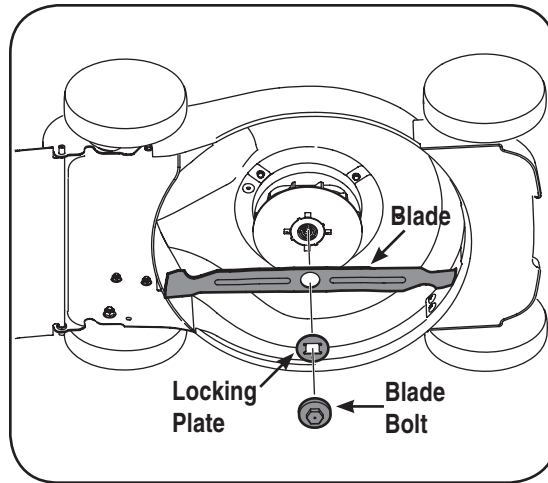

Figure 5-3: Remove blade and hardware.
3. Loosen and remove the blade bolt, locking plate, and blade. See Figure 5-3.
6. Place the cutting blade, locking plate, and blade bolt on the motor shaft and thread the blade bolt in finger tight. Refer to Figure 5-3.